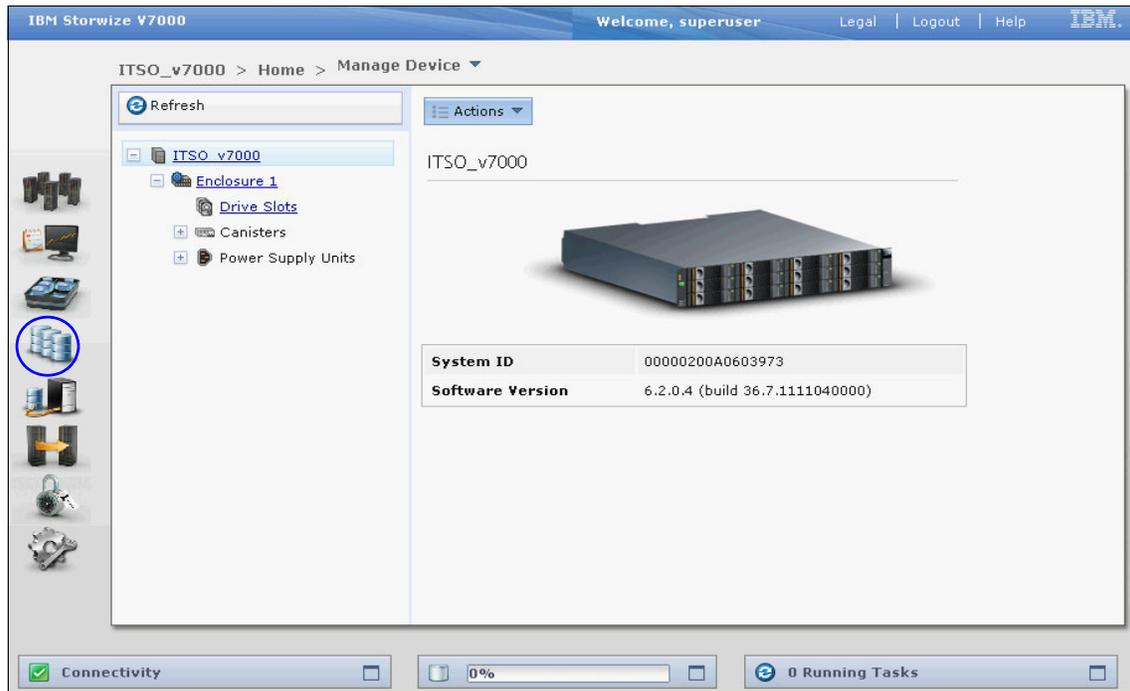

Figure 10-85 IBM Storwize V7000 window
2. On the left side of the IBM Storwize V7000 window (Figure 10-85), click the **Volumes** icon (circled in the figure).